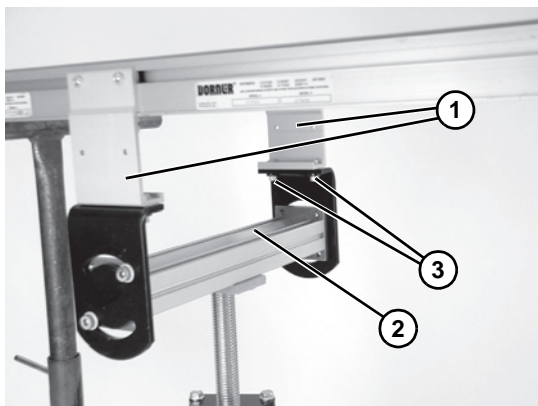

Figure 22
8. Lower conveyor supports (**Figure 22, item 1**) onto mounting bracket (**Figure 22, item 2**). Attach conveyor supports to bracket with hardware (**Figure 22, item 3**).
Failure to secure screws (**Figure 22, item 3**) may cause conveyor sections to drop down, causing severe injury.
TIGHTEN ALL SCREWS (Figure 22, item 3) AFTER ADJUSTMENT.
9. Tighten fastening hardware (**Figure 22, item 3**) to 100 in-lb (11 N-m).